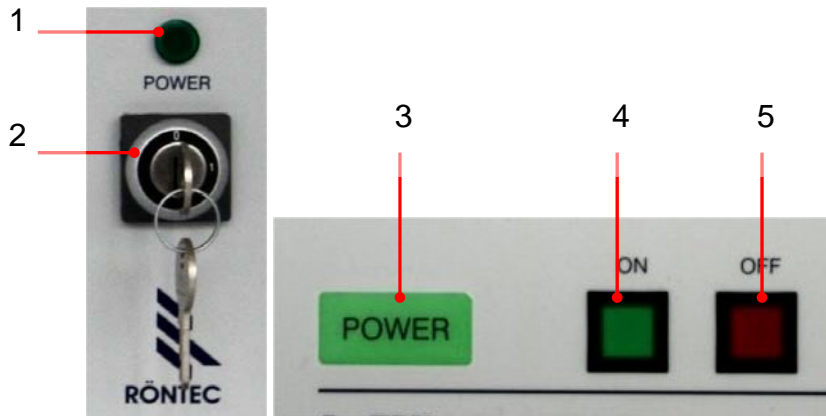

Fig. 34: Powering on ARTAX™
1. Switch on the primary mains supply with the key switch on the electronics unit. The green control lamp "**Power**" (see Fig. 34) on the electronics unit and the green lamp on the "ON" switch at the terminal (see Fig. 34) both light up.